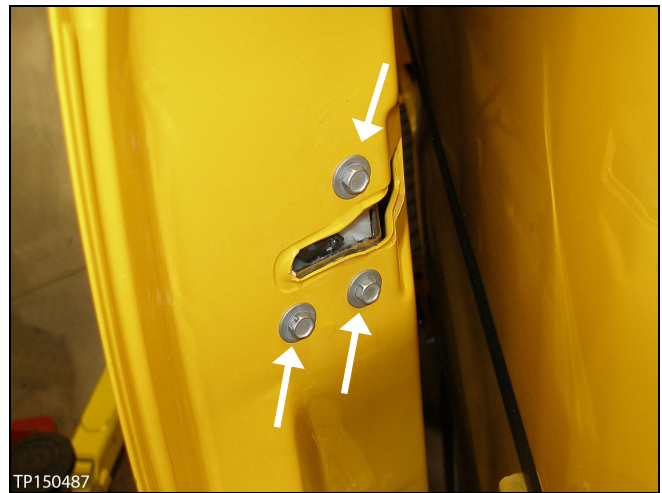

Figure 18
10. Unbolt the rear lock, and then remove it from the slide door (see Figure 18).